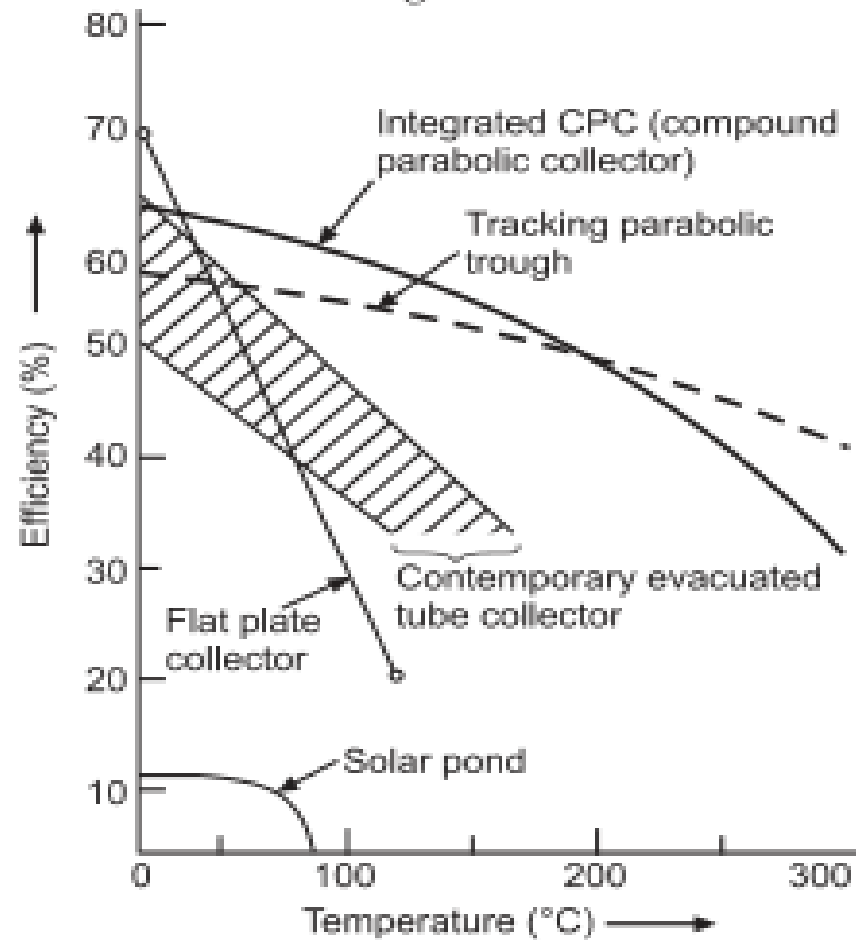

Fig. 3.1. Efficiency for solar collectors (Halcrow/ITP, 1983b).
- Solar collectors, based on their geometry, can be divided into a number of generic types. These vary in efficiency and, consequently, useful heat output, depending on demand temperature, as shown in Fig. 3.1.